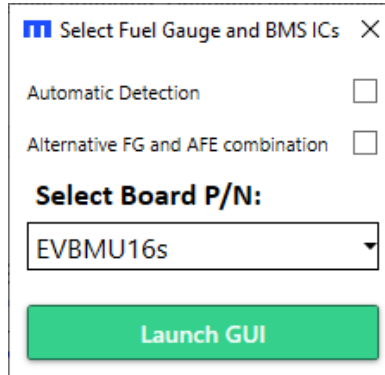
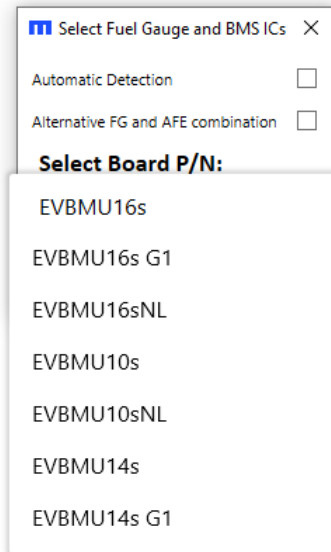

Figure 20: Fuel Gauge and BMS ICs Selection Window 1
Figure 21: Fuel Gauge and BMS ICs Selection Window 2
- a. Manually select the EVBMU1xx version in the drop-down menu (see Figure 20 and Figure 21).